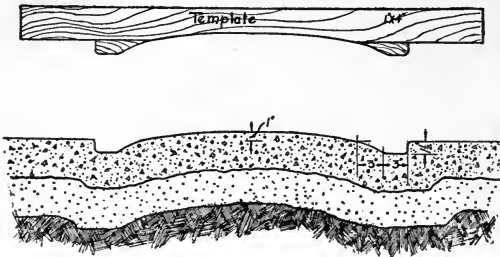

Figure 101.—Concrete Center Alley for Hog House. The Upper Illustration Represents the Wooden Template Used to Form the Center of the Hog House Floor
*Concrete Hog House Alley.*—The center alley in a winter hog house should be well rounded in the center with two well defined gutters. See Figure 101. Hogs